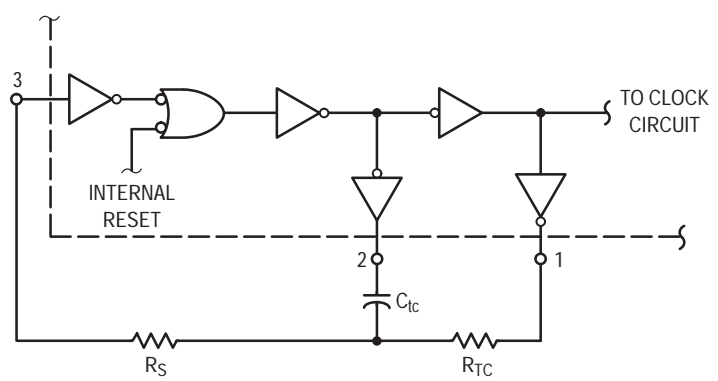

Figure 3. Oscillator Circuit Using RC Configuration
6. When using the on chip oscillator the total supply current (in μAdc) becomes: IT = ID + 2 CTC VDD f × 10-3 where ID is in μA, CTC is in pF, VDD in Volts DC, and f in kHz. (see Fig. 3) Dissipation during power-on with automatic reset enabled is typically 50 μA @ VDD = 10 Vdc.
The RC oscillator as shown in Figure 3 will oscillate with a frequency determined by the external RC network i.e.,